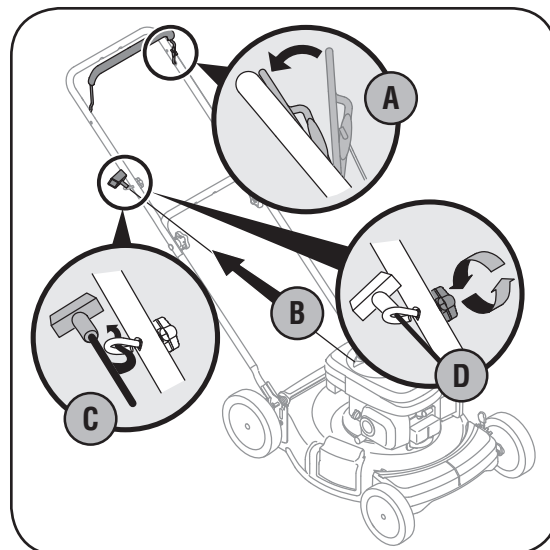

Figure 3-3: Pull recoil starter through rope guide and tighten.
3. The rope guide is attached to the right side of the upper handle. Loosen the wing nut which secures the rope guide, Figure 3-3.